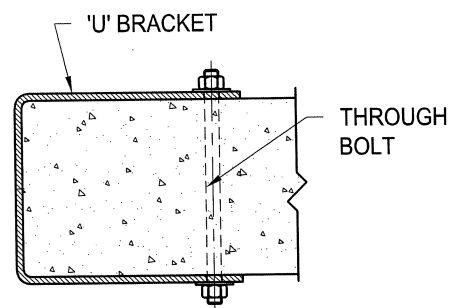

fig. 1
- Place top 'U' bracket at top of jamb. Through bolt 'U' bracket to jamb (fig. 1).
- Place bottom 'U' bracket at bottom of jamb and through bolt bracket to jamb (fig. 1).